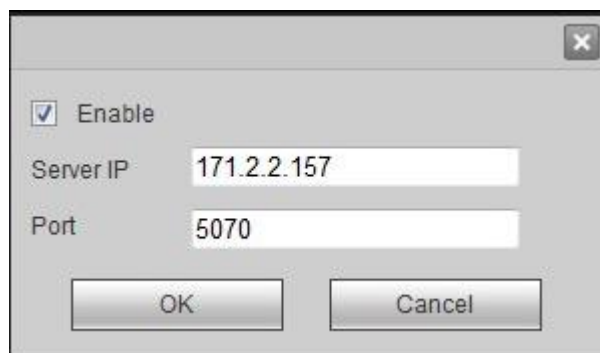

Figure 4-108
Step 1 Click "Add". The system pops up Figure 4-108.